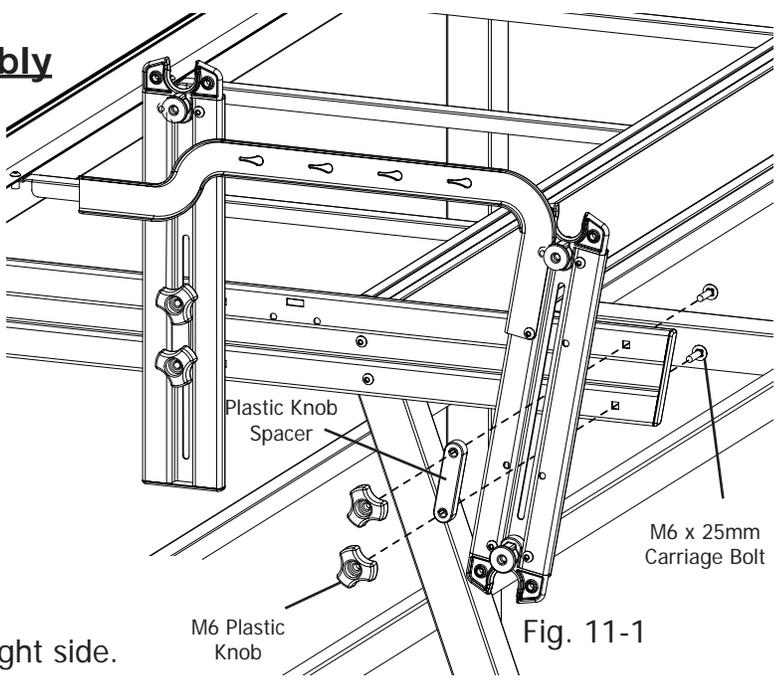

Fig. 11-1
**11-1:** Slide two (2) M6 x 25mm carriage bolts through the holes in the left frame end so the bolts go through the center slot, as shown in Fig. 11-1.